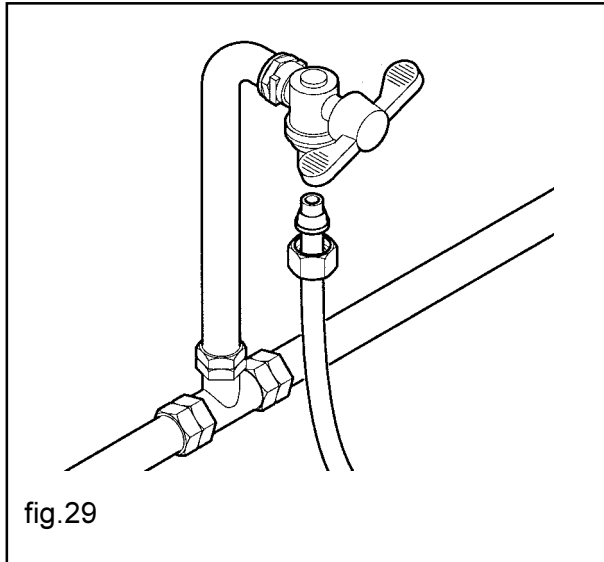

fig.29
- connect the tap to the distributor, using a rigid copper or nylon pipe, suitable for foodstuffs and adequate for the purpose of bearing the water supply pressure. Should a flexible pipe be used, it is necessary to assemble the reinforcement bearing inside, which comes supplied with the machine (fig.29);